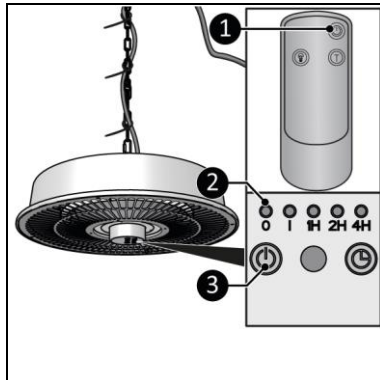

Figure 11
2. The O light indicator lights up (Figure 11, pos. 2).
3. Press the ON/OFF button on the control panel (Figure 11, pos. 3) or the remote control (Figure 11, pos. 1).